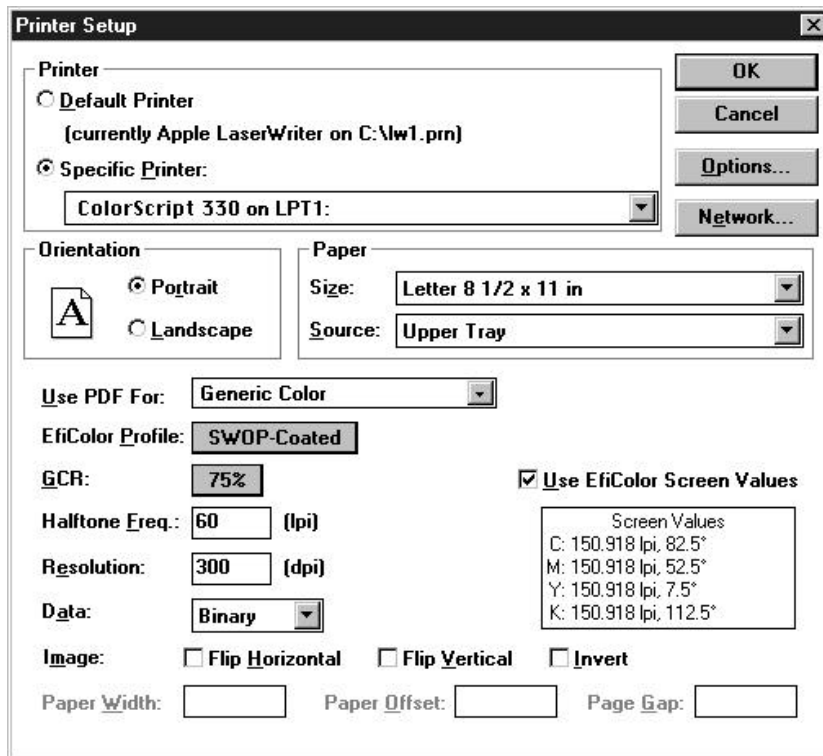

Figure 5-32 Quark Express 3.3 Printer Setup Window
**6. Click Setup in the Print window to change the Printer Setup variables, shown in Figure 5-32:**